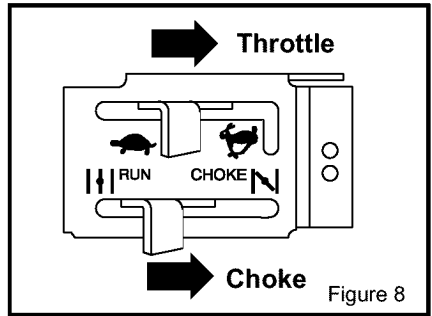

Figure 8
2. Move the **throttle control** up to increase engine speed, or down to decrease engine speed (see Figure 8).